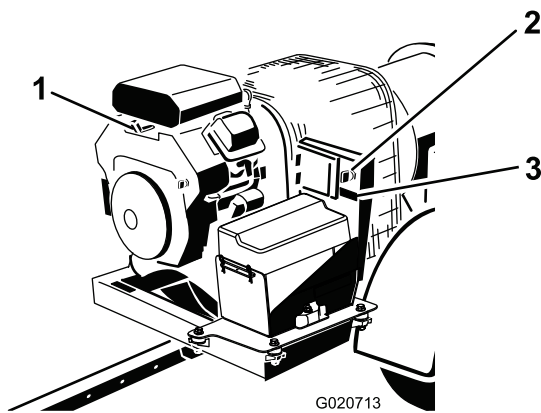

Figure 14
3. Rotate the engine ignition key to the "START" position and quickly release it to the "ON" position (Figure 14). This wakes up the receiver .
4. If leaving the machine, rotate the key to the OFF position and remove it from the engine (Figure 14).